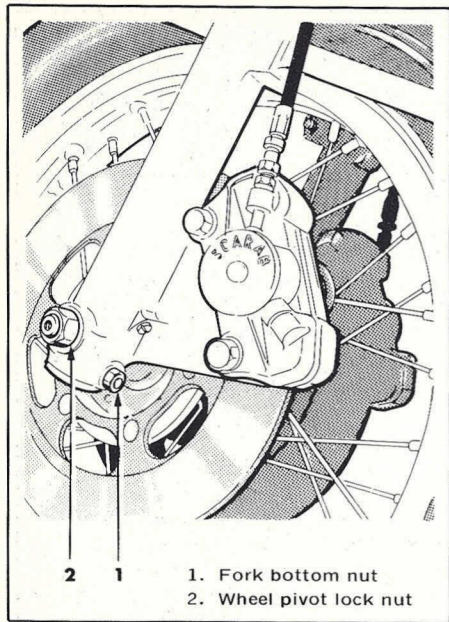

Figure 3-17. Removal of front wheel with disc type brake model
Removal of front wheel with disc type brake (See figure 3-17)
- c. Loosen both nuts (1, figure 3-17) at the bottom of each fork leg.
- d. Remove nut (2) and wheel pivot.